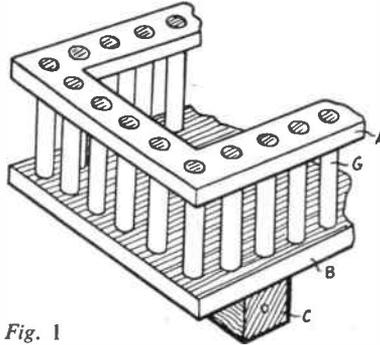

Fig. 1
The holes to take the upright dowels are drilled at intervals of approximately  $\frac{1}{4}$  in. It is advisable to drill them in piece (A) before cutting out the centre. Assemble the wagon as shown in Fig. 1, using glue for all the joints. Fig. 1 also